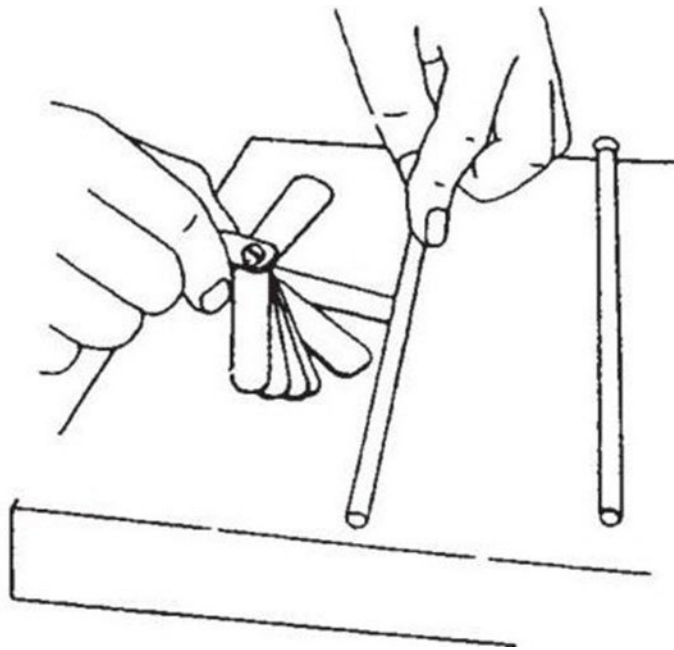

Figure 66. Push Rod Measurement
3. Use a feeler gauge to measure the gap (Figure 66).